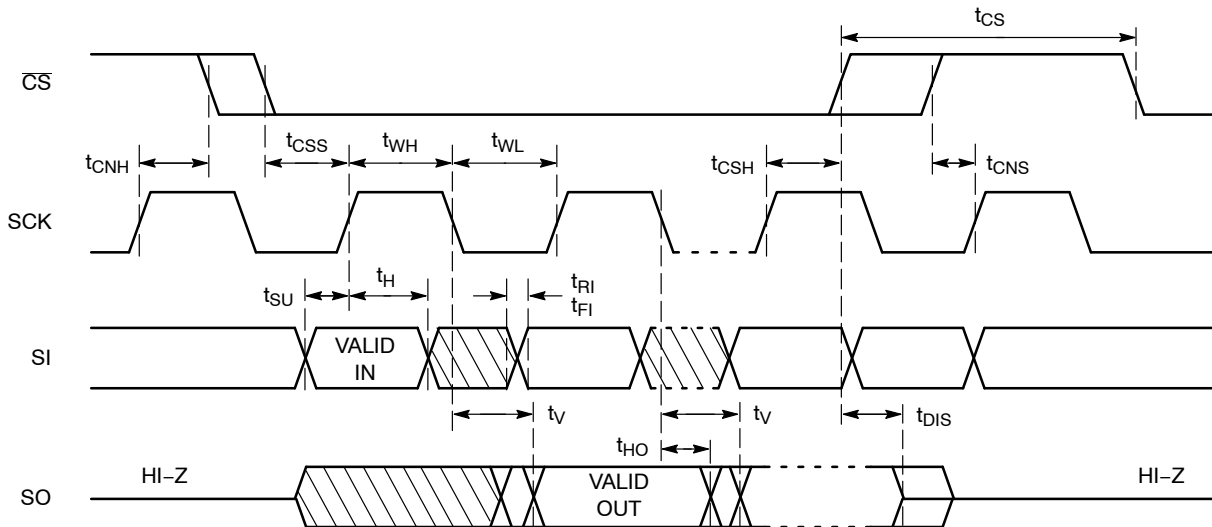

Figure 2. Synchronous Data Timing
8. t_{WC} is the time from the rising edge of CS after a valid write sequence to the end of the internal write cycle.9. All Chip Select (CS) timing parameters are defined relative to the positive clock edge (Figure 2). t_{CSH} timing specification is valid for die revision C and higher. The die revision C is identified by letter “C” or a dedicated marking code on top of the package. For previous product revision (Rev. B) the t_{CSH} is defined relative to the negative clock edge.**Table 7. POWER-UP TIMING** (Notes 7, 10)
After a high to low transition on the $\overline{CS}$ input pin, the CAT25256 will accept any one of the six instruction op-codes listed in Table 10 and will ignore all other possible 8-bit combinations. The communication protocol follows the timing from Figure 2.